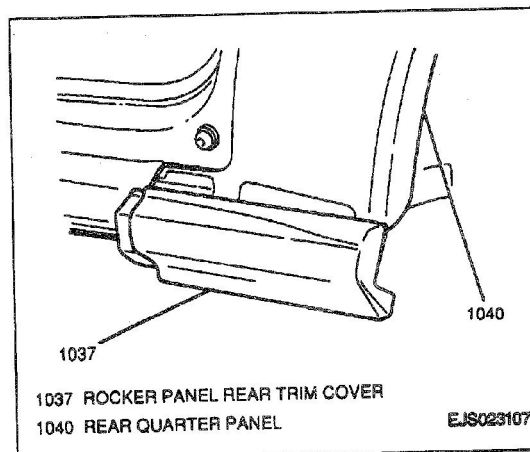

Figure 13—Rocker Panel Rear Trim Cover—Two - Door Model Shown, Four - Door Model Similar
- Two nuts and lift rocker panel rear trim cover off rear retainer and remove cover from rocker panel (Figure 13).
- Fit rocker panel rear trim cover onto rear retainer; secure with two nuts (Figure 13).